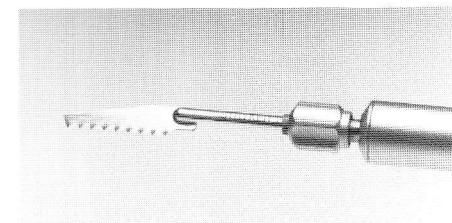

Figure 18
2. Insert blade or rasp. Twist until seated. Turn locking nut clockwise to tighten. See Figure 18.